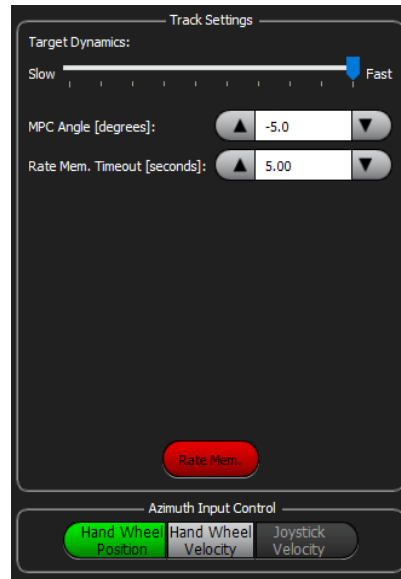

Figure 25: Track Settings Window
1. On the Axis Control window, click on the gear button located to the right of the track button, and open the Track Settings window, as shown in Figure 25.